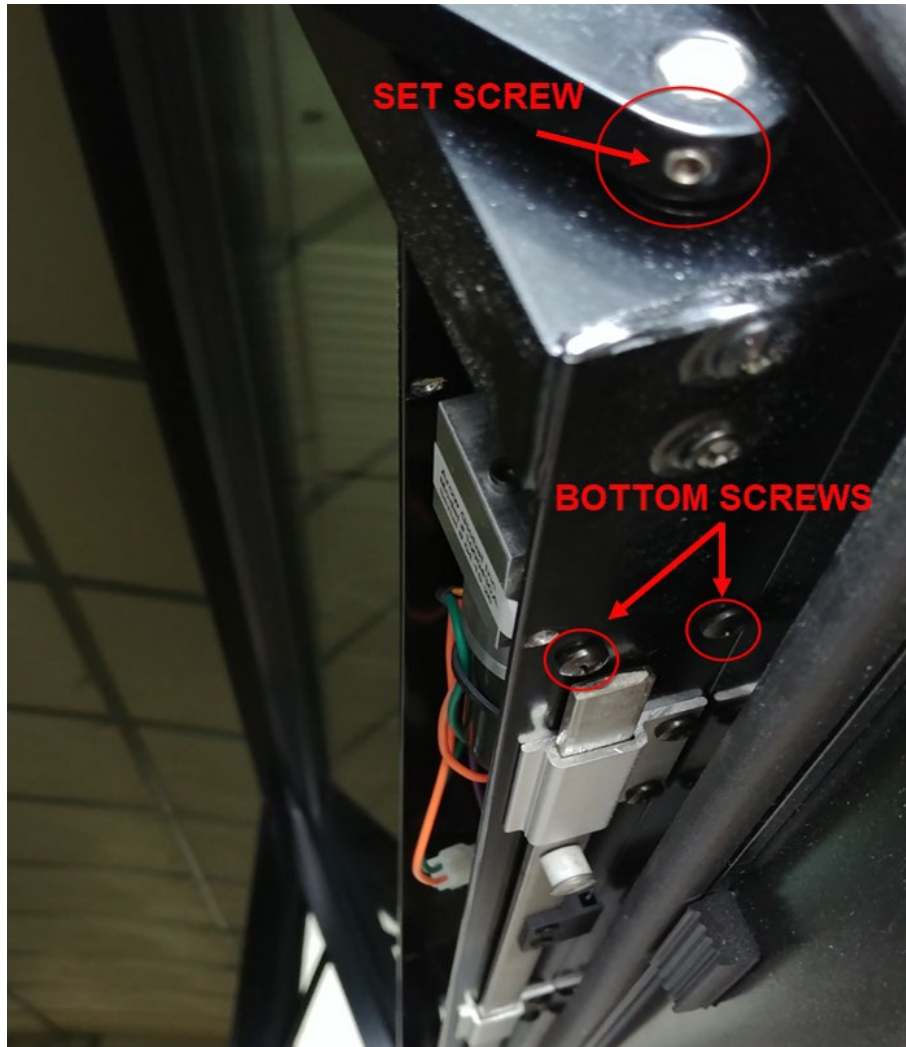

FIGURE 3 : ARM SET SCREW (TO MOTOR SHAFT) & MOTOR BOTTOM SCREWS (2X)
- Rotate the arm to access the set screw holding it to the motor shaft – Figure 3.
- Remove the two bottom screws securing the motor to the window frame – Figure 3.